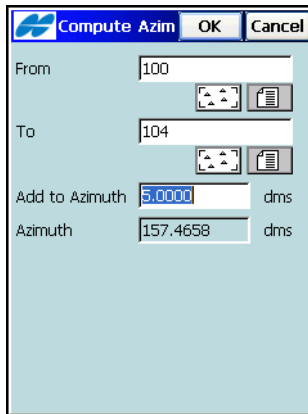

Figure 3-79. Compute Azimuth
- – opens the *Compute Rotation* screen (Figure 3-78 on page 3-82) to compute the *Azimuth Rotation* value. For details, see Figure 3-79 on page 3-83.
The *Compute Azimuth* screen (Figure 3-79 on page 3-83) computes the azimuth of the direction using two points.